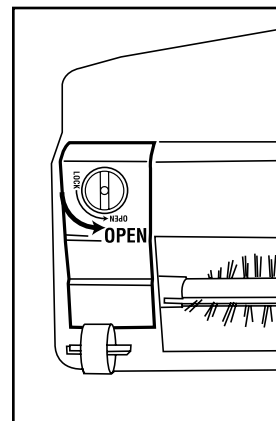
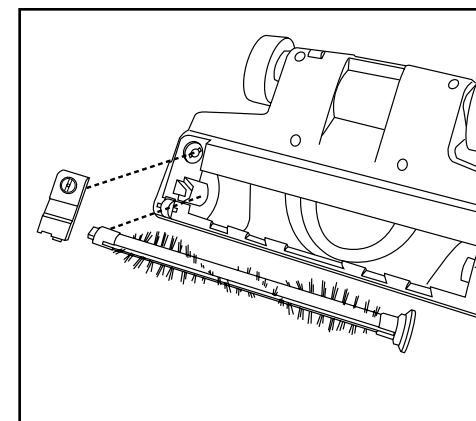

Fig. 11
Fig. 12
2. To remove brushroll for further cleaning turn tab on base of unit and remove small cover. (Fig. 11) Remove brushroll and endcaps. (Fig. 12) Reverse process to return to unit.